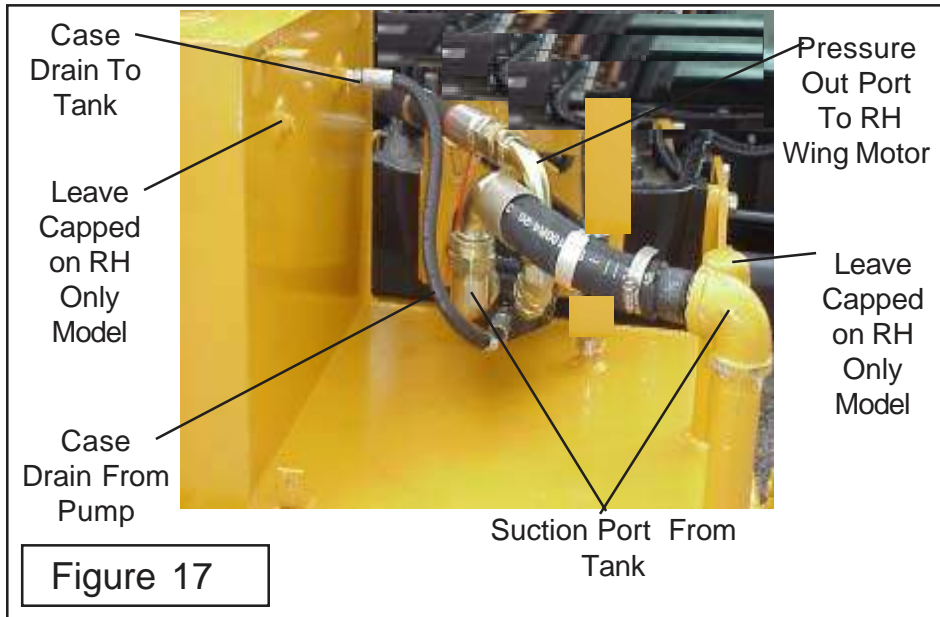

Figure 17
**18. Connect Motor Pressure Supply Hoses to Pump.** The Pump for the RH Wing Only (Single Pump ) has one pressure hose. The LH side (sitting on Tractor looking forward) is the supply for the RH Wing Motor. The hose for the RH Wing should be marked with a red plastic tie on it, Connect these two hoses at the pump now (See Figure 17).
**19. Connect Pump Case Drain Hose.** The Case drain hose should already be connected, if not connect it now. Hose & Fittings with Pipe thread will need a thread sealer used, do not use excess sealer and no sealer on ID of fittings (See Figure 17).
**20. Connect Pump Suction Hose.** The Pump Suction hoses will be sent longer than needed and will need to be cut to fit, DO NOT install any suction hose with kinks in them. Kinked hose could starve pump of oil.. (See Figure 17). The Auxiliary. Before connecting the pump suction hose, fill the fitting and hose with clean recommended type hydraulic oil. This will prevent the pump from starting dry and damaging pump, connected pump suction hose now (See Figure 17).
**11.** Install Wire Harness to Motor Solenoid. The thumb nut on top of the solenoid will allow the solenoid to be turned to different direction if needed. (See Figure 17 & 21)